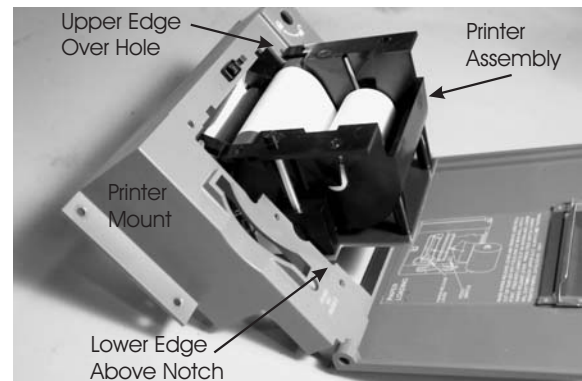

Figure R3-2, Printer Removal Step 1
2. Put a cut in the middle of the top and bottom sides of the exposed part of the empty latch. Refer to Figure R3-2.
Note: It is difficult to remove the Printer Assembly from the Printer Mount. Refer to Figures R3-2 through R3-4 for illustrations of the Printer Assembly removal.